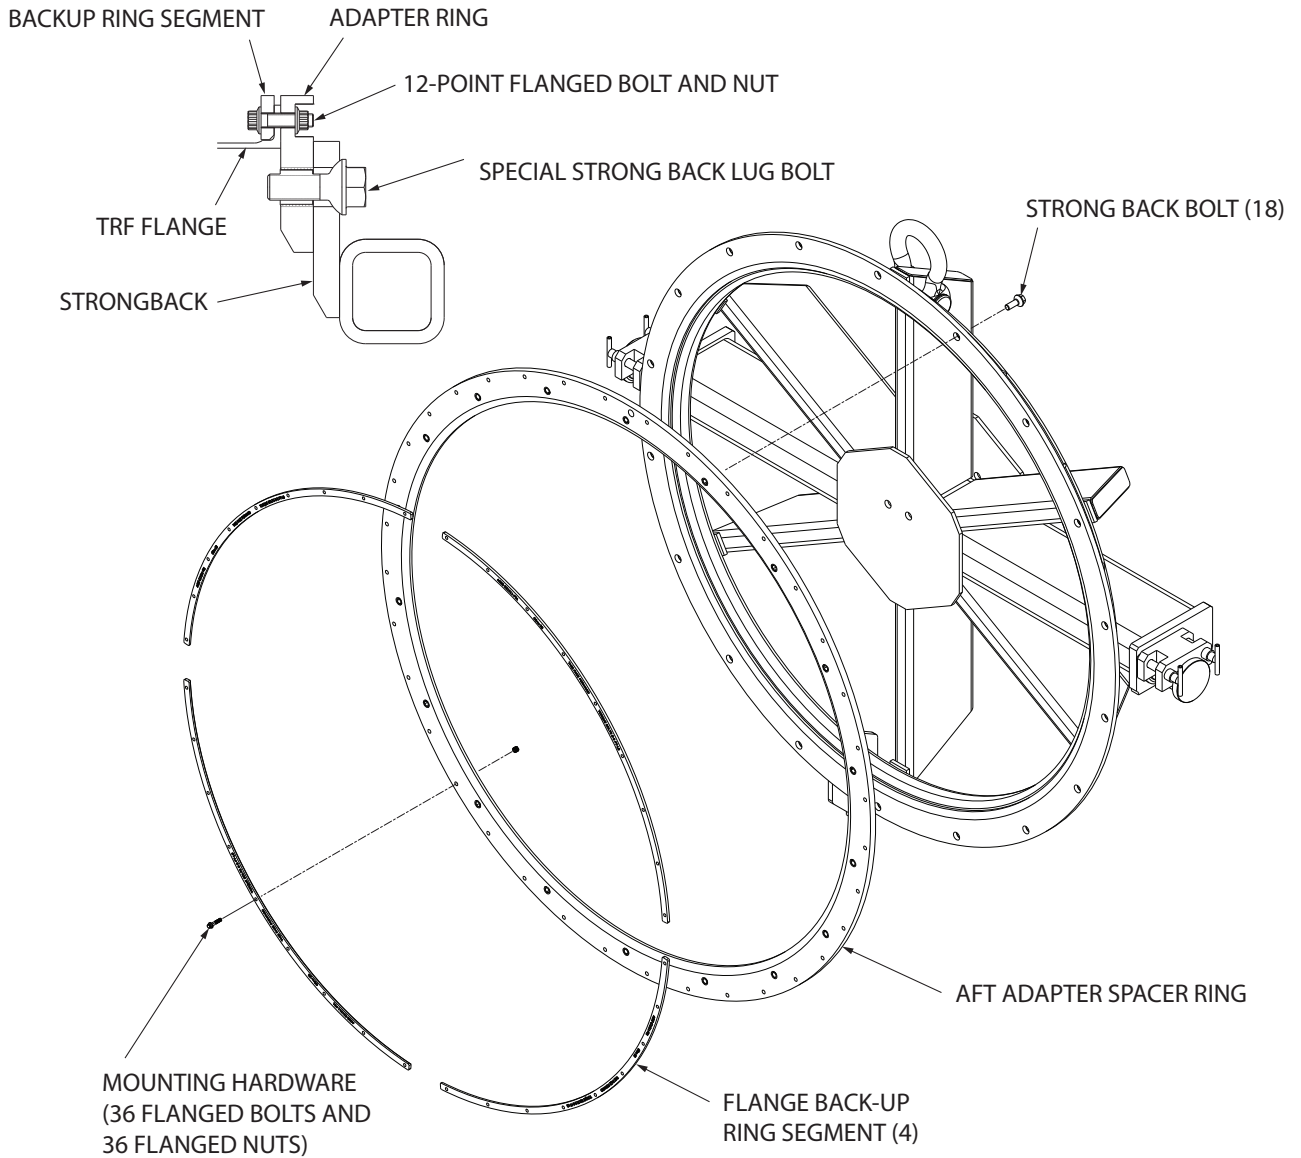

Figure 5.2-5
- 5) Remove the exhaust nozzle and exhaust cone and two (2) guide pins on either side of the outer flange near 6 o'clock CL.
- 6) Attach the AFT spacer ring (IPB Figure 8 - Item 2) with four (4) quarter backup ring segment (IPB Figure 8 - Item 3) to the AFT TRF flange of the engine using the 36 bolts and nuts provided (IPB Figure 3 - Items 5 and 6). Install the hardware in a criss-cross pattern to ensure even loading and progressively torque the bolts to 8 - 10 ft-lbs (Figure 5.2-5).